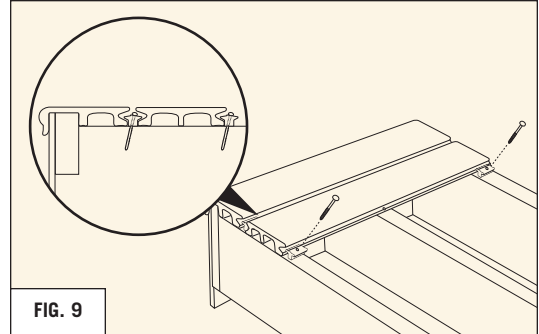

FIG. 9
- Install clip fasteners on all remaining joists. All Wing-clips should be installed with the white line on the Wing-clips facing away from the deck board. Installing a clip on the toe screwed joist is optional. (REFER TO FIG. 9)